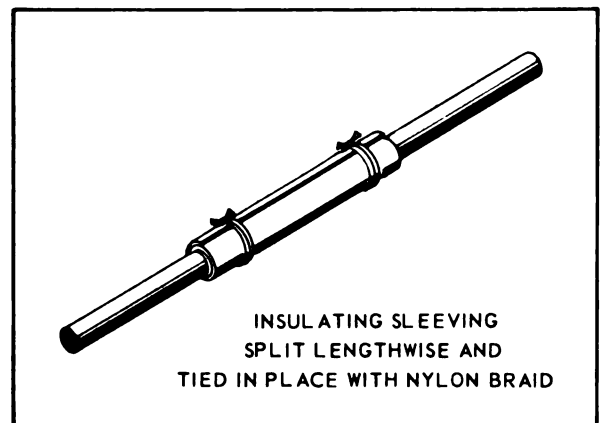

Figure 19-5. Insulation Repair With Sleeving
b. If potting compound is not available, repair damaged wire insulation by using a transparent sleeve of flexible tubing 1-1/2 times the outside diameter of the wire and 2 inches longer than the damaged portion of the insulation. This sleeving is split lengthwise and wrapped 1-1/2 times around the wire at the damaged section. Tie with nylon braid at each end and at one inch intervals over the entire length. See figure 19-5.